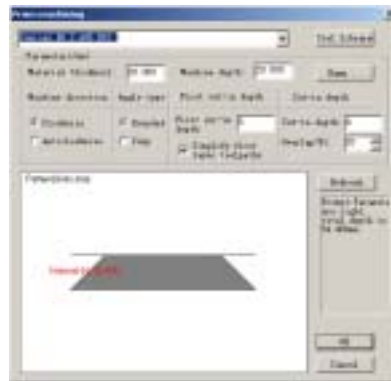

Fig. 12-42
3. Select the letter, and click on the shortcut icon  in Tool Path Bar or select Tool path->Prism machining in the menu bar. Then the Prism dialog is shown. (Fig. 12-42)